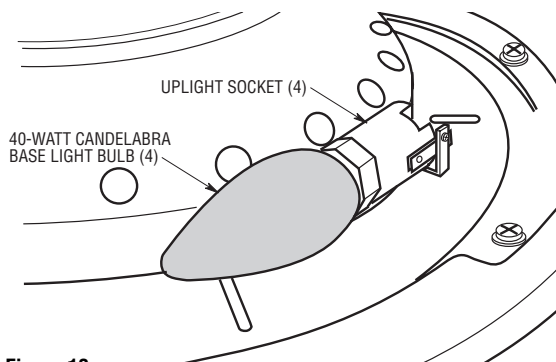

Figure 13
- 24. Install four 40-watt candelabra base light bulbs (supplied) in the upright sockets (Figure 13).